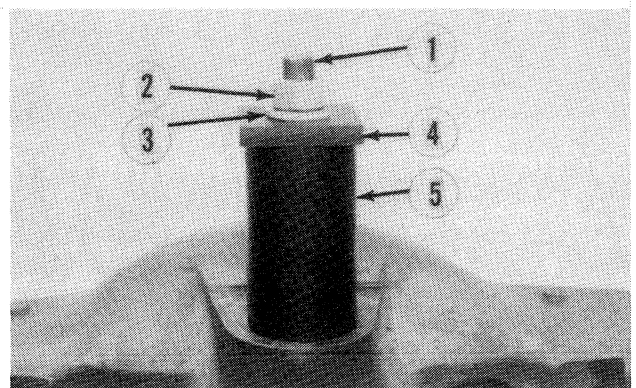

Fig. 270—View showing removal equipment used to pull front pivot pin from front-wheel drive axle. Refer to text.
Inspect axle pivot pins and bushings for wear or damage. To renew front pivot pin, weld a 6 inch (150 mm) \times 7/8 inch (22 mm) SAE grade 8 cap screw (1—Fig. 270) to the pivot pin. Grease threads of cap screw and nut, then position a 7-1/4 inch (184 mm) long steel tube (5), steel plate (4) and hardened flat washer (3) on cap screw to be used as a puller. Tighten nut (2) to remove pin from axle housing. **DO NOT** apply heat to axle housing. Chill new pivot pin in a freezer for four to six hours. Clean pivot pin bore in axle housing with solvent, then apply light coat of grease to bore. Position new pin in axle housing with spring pin hole in end of pin facing upward. Protect end of pin with a soft metal plate, then drive pin into housing until it bottoms in bore. When correctly installed, pin should not protrude more than 2.1 inches (53 mm) from machined face of axle housing.